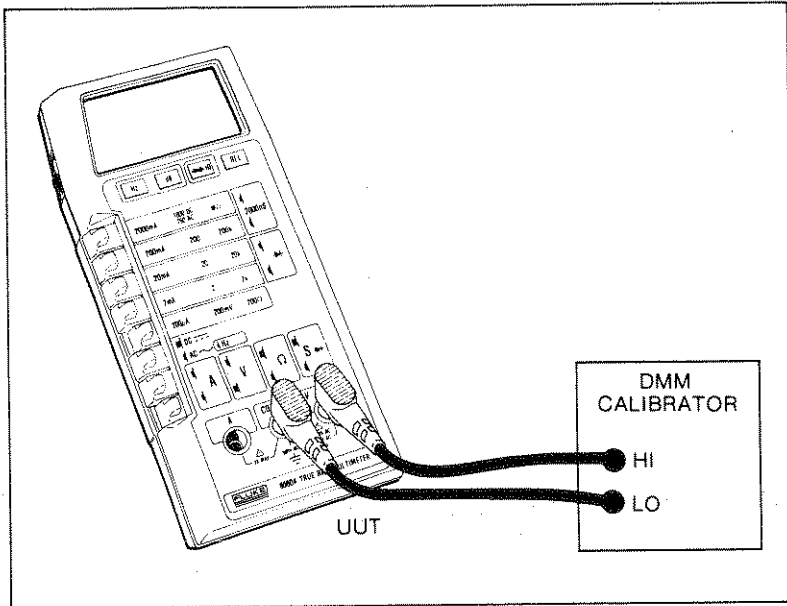

Figure 5-4. General Equipment Connection
1. Connect the UUT and the DMM Calibrator as shown in Figure 5-4.
2. Select the conductance (S) function.
2. Connect the UUT and the DMM Calibrator as shown in Figure 5-4 and apply a resistance of 1.000 k $\Omega$ . A reading of .9000 to 1.1000 (typical) should appear on the UUT display.
3. Connect the equipment as shown in Figure 5-4 and turn on the equipment.
4. On the UUT, select the dc voltage function and the 2 volt range. Turn R6 fully clockwise (CW), and turn R5 fully counterclockwise (CCW).